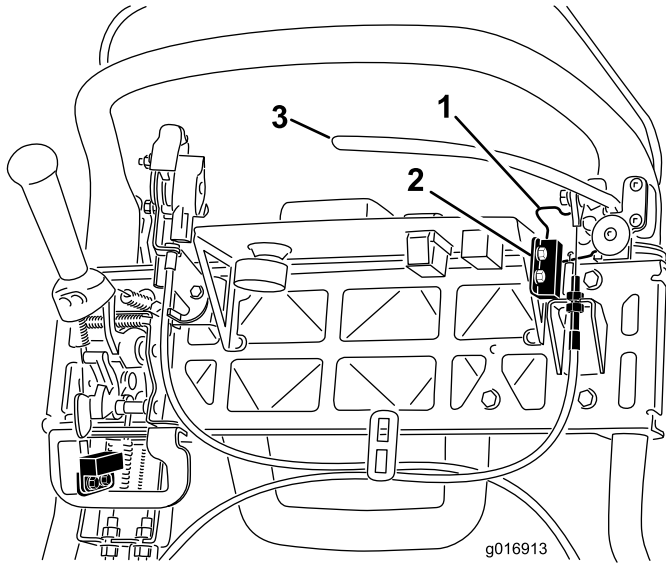

Figure 39
4. Loosen the interlock switch mounting fasteners (Figure 39).
5. Place a 0.062 inch (1.6 mm) thick shim between the parking brake latch and the interlock switch (Figure 39).
4. To increase the cable tension, loosen the upper cable jam nut and tighten the lower cable jam nut (Figure 39) until a force of 35 lb (156 N) applied to the brake lever handle, is required to release the parking brake latch. Do not over adjust or the brake band may drag.